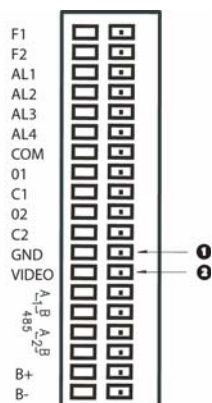

Fig. 4.6 Wiring the Terminal
4. Use a small screwdriver to press down on the GND push latch (see *Figure 4.6*) and attach the single braid to the GND terminal.
5. Use a small screwdriver to press down on the VIDEO push latch (see *Figure 4.6*) and attach the center conductor to the VIDEO terminal.